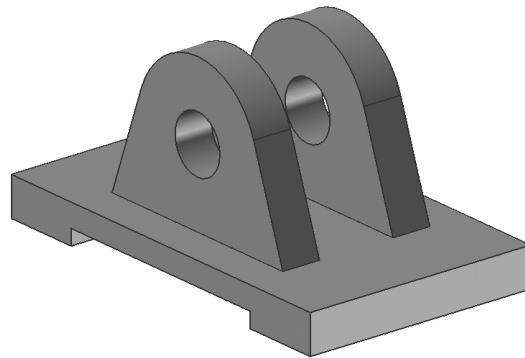

Figure 8-55 The model after creating the mirror feature
- h. Mirror the features with respect to the datum plane using the **Instance Feature** tool, refer to Figure 8-55.
5. Select the **XC-ZC Plane** as the mirror plane. Choose the **Apply** button and then the **Cancel** button. The resulting model is shown in Figure 8-55.